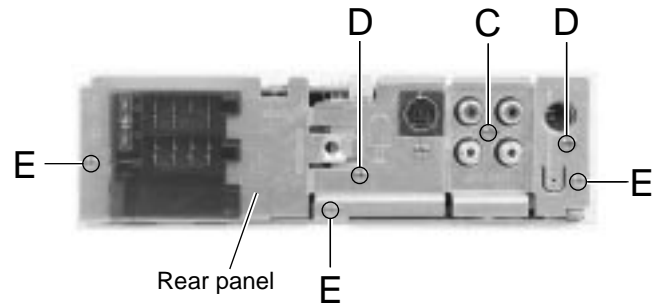

Fig.8
■ Removing the main board (See Fig.8 and 9)